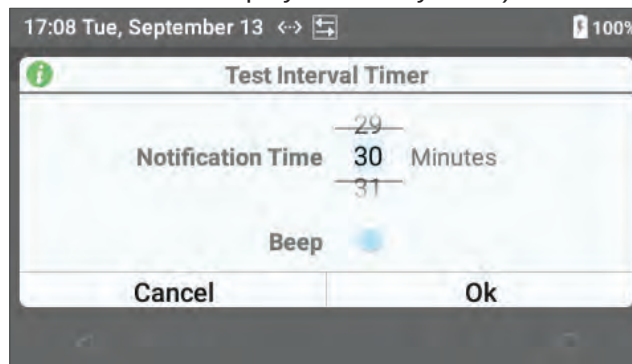

Figure 56: Test Interval Timer – Notification Time
- 2 In the dialog box (Figure 56), scroll the **Minutes** for **Notification Time** to select the duration or manually enter the value (touch the text field to display virtual keyboard).